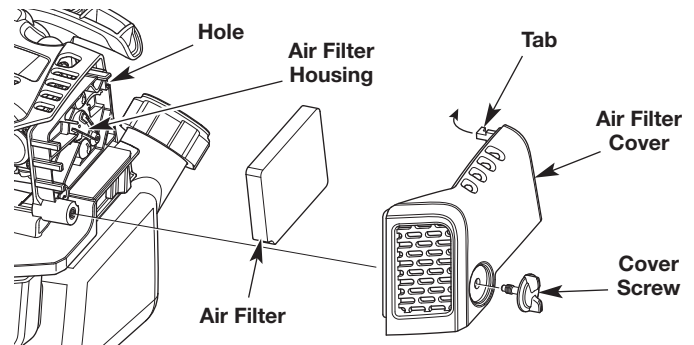

Fig. 25
1. Unscrew the cover screw completely. Swing the air filter cover to the right. Remove the air filter cover from the air filter housing (Fig. 25).
2. Remove the air filter from the air filter housing (Fig. 25).
6. Reinstall the air filter in the air filter housing (Fig. 25).
7. Insert the tab on the air filter cover into the hole on the air filter housing. Swing the air filter cover to the left. Push the air filter cover back onto the air filter housing. Insert the cover screw into the air filter cover. Tighten the cover screw to secure the air filter cover (Fig. 25).